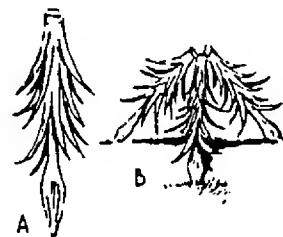

Figure 394 Fuzz Stick
8. Make a fuzz stick which was used in yesteryears for starting a fire. Today, fuzz sticks are rarely used, but the art of making them should not be forgotten. Secure a stick of dry soft wood which is about a foot long and an inch thick. Point the end as shown in Figure 394-A. While holding the pointed end place the other end against something solid and whittle long slender shavings as long and as thin as possible, leaving them attached to the stick. To prevent the shavings from being cut loose, press harder and deeper with the knife as the end of the cut is neared. When finished the fuzz stick will look like a Christmas tree. Then the pointed end of the stick is
placed into the ground and small kindling is piled around it and it is ready to light. If desired, three fuzz sticks may be made and they can be placed into the ground teepee-fashion as in Figure 394-B.